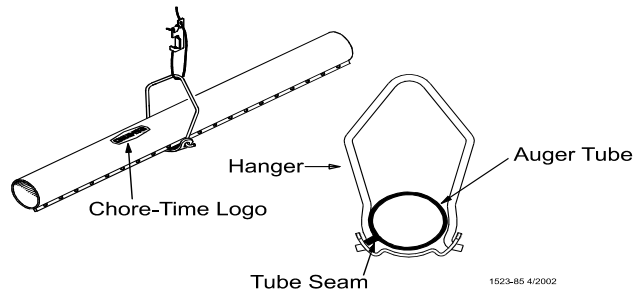

Figure 27. Hanger Installation
3. To achieve total feed drop out all along the system, the Chore-Time Logo should be centered at the crown of the tubes and all the Hangers should be installed as shown in **Figure 27.**